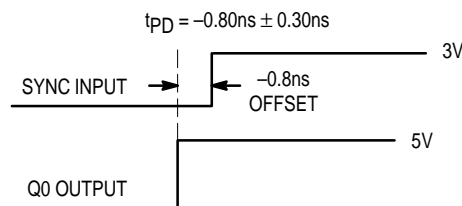

Figure 2. Depiction of the Fixed SYNC to Q0 Offset (t_{PD}) Which Is Present When a 470KΩ Resistor Is Tied to V_{CC} or Ground
2. A 470KΩ resistor tied to either Analog VCC or Analog GND, as shown in Figure 2., is required to ensure no jitter is present on the MC88LV926 outputs. This technique causes a phase offset between the SYNC input and the Q0 output, measured at the pins. The t_{PD} spec describes how this offset varies with process, temperature, and voltage. The specs were arrived at by measuring the phase relationship for the 14 lots described in note 1 while the part was in phase-locked operation. The actual measurements were made with a 10MHz SYNC input (1.0ns edge rate from 0.8V to 2.0V). The phase measurements were made at 1.5V. See Figure 2. for a graphical description.